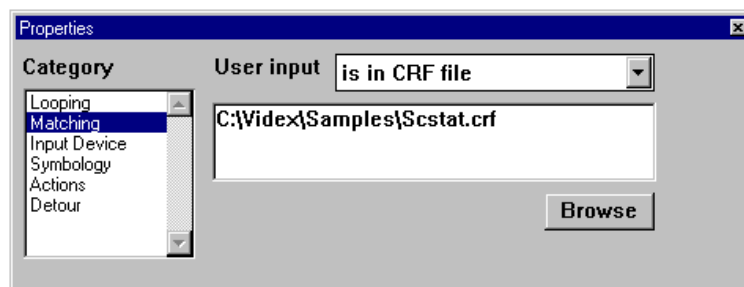

Figure 3-96 “Status” Handler - Matching Criterion in Scstat.crf File
f) The pathway to the CRF file is displayed in the edit window (Figure 3-96).